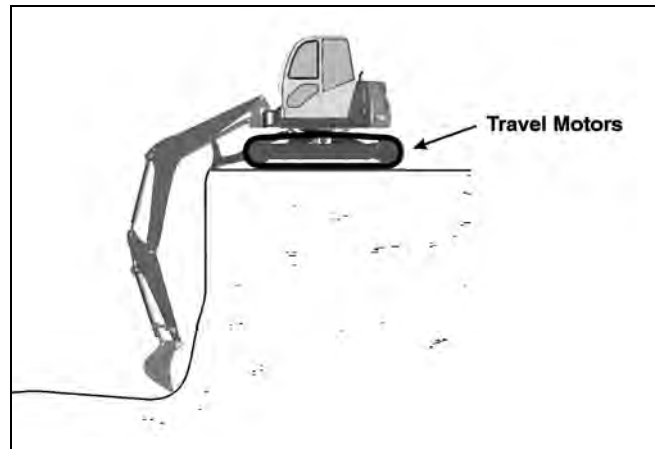

Figure 3-41 Machine Position for Excavating
- When working close to an excavated edge, be sure that the ground the machine is sitting on is solid. Keep the travel motors to the rear. See Figure 3-41.